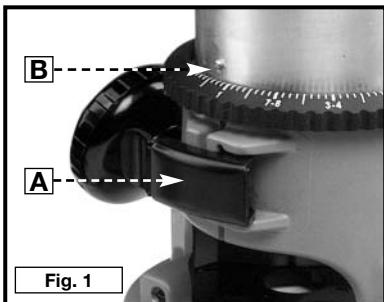
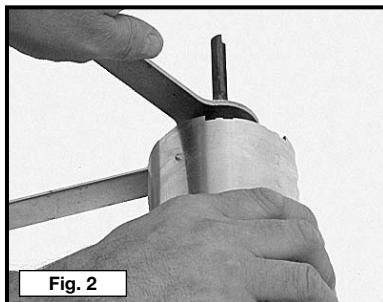

Fig. 1
Fig. 2
- (a) Open the clamp (A) Fig. 1.
- (b) While holding base, turn power unit COUNTER-CLOCKWISE until the lower pin (B) in the motor housing is disengaged from groove in base.
4. Place one wrench on the flats of the chuck with the opposite end of the wrench resting on the bench to your left (Fig. 2).
1. Open the clamp (A) Fig. 1 and set the power unit in the base unit.
2. Align the lower pin of the power unit (B) Fig. 1 with the groove in the base.